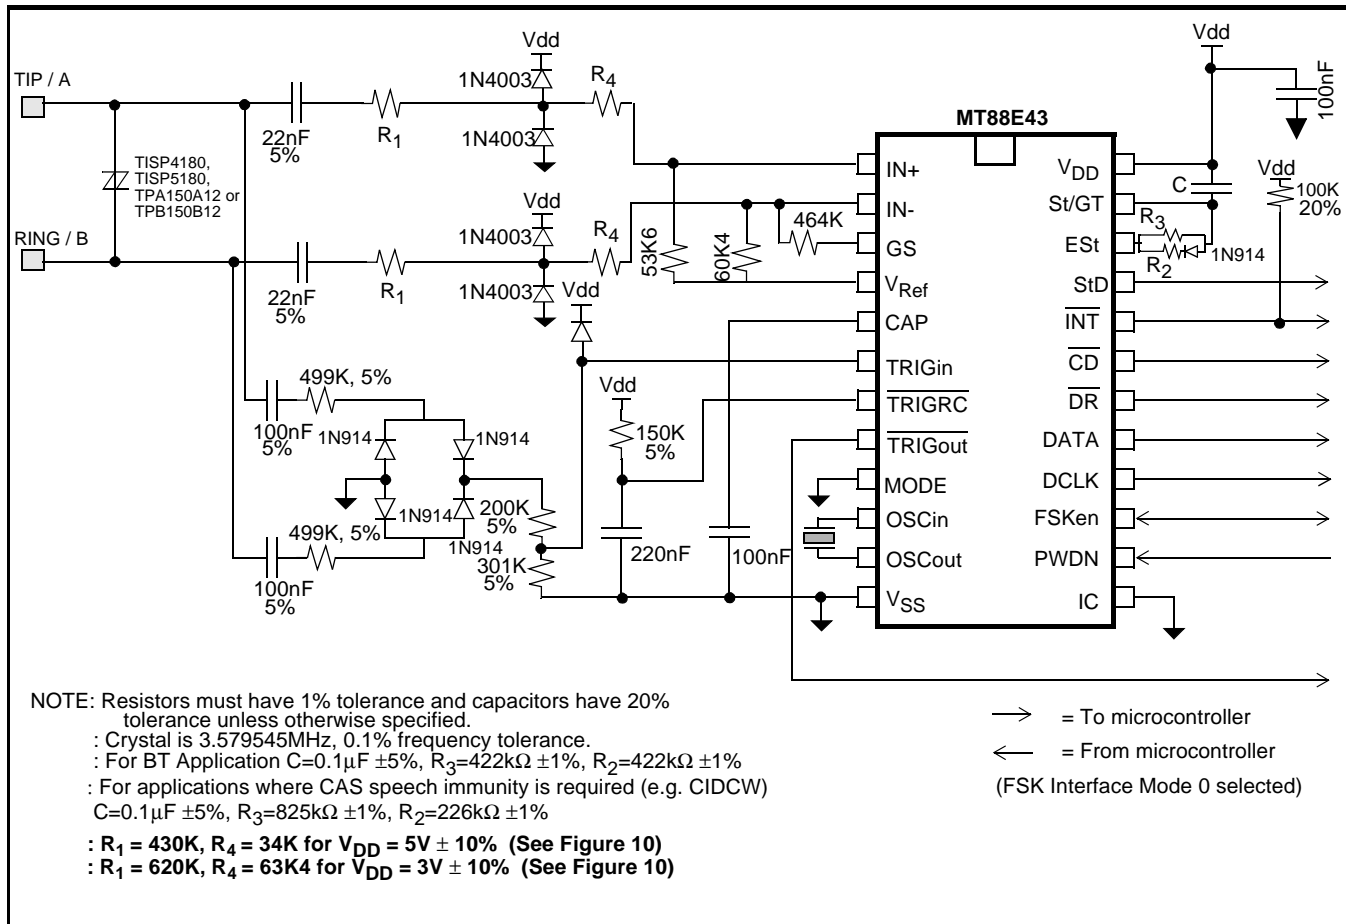
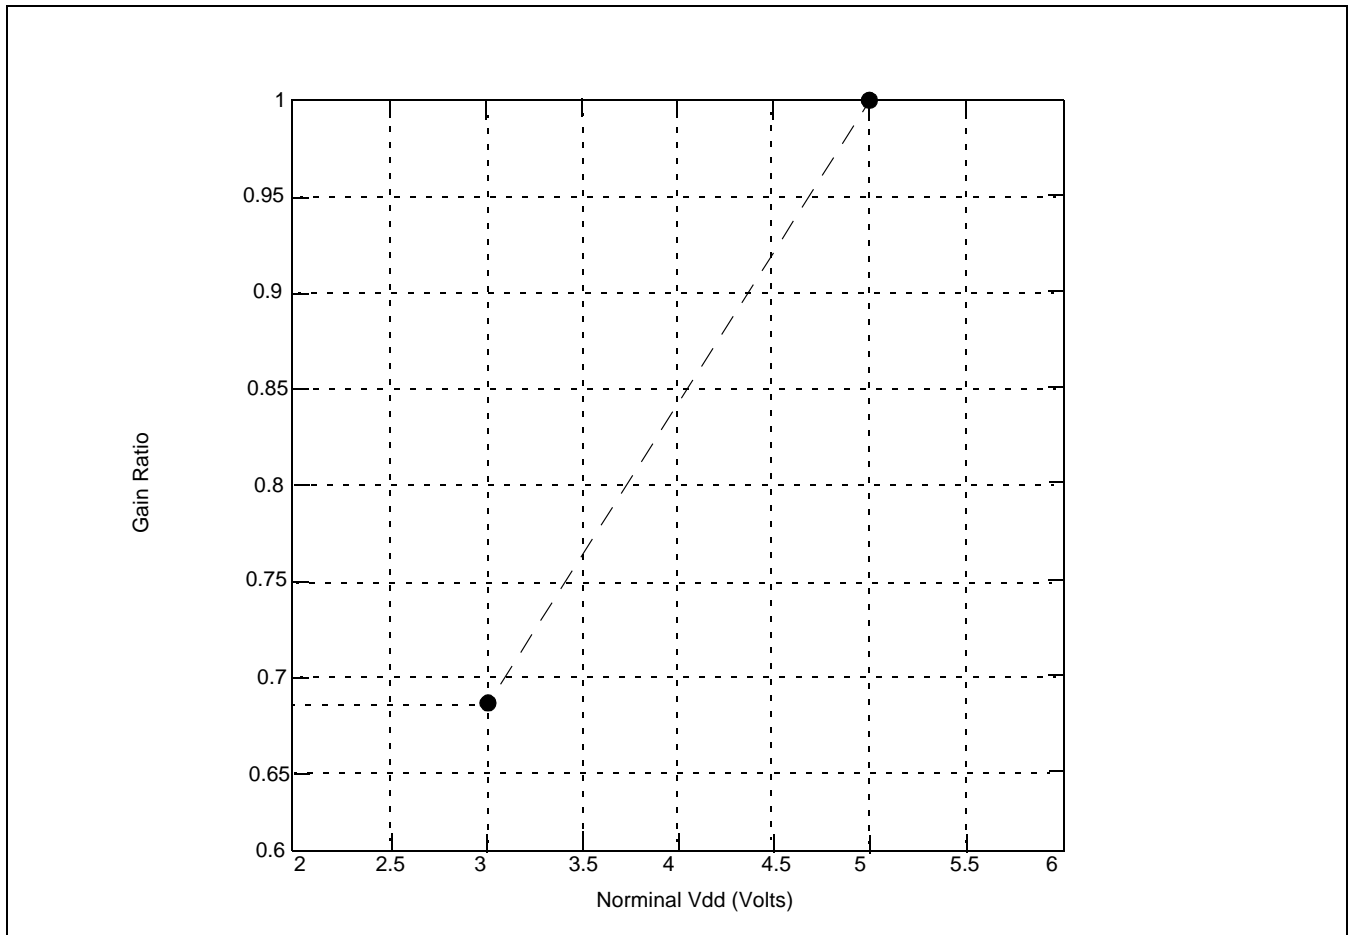

Figure 9 - Application Circuit
Figure 10: Gain Ratio as a function of Nominal Vdd
Figures 9 and 11 ($R_2=R_3=422K$, $C=0.1\mu F$) will meet the BT timing requirements.
The circuits shown in Figures 9 and 11 are application circuits for the MT88E43. As supply voltage (V_{DD}) is decreased, the threshold of the device's tone and FSK detectors will be reduced. Therefore, to meet the BT or Bellcore tone reject level requirements the gain of the internal opamp should be reduced according to the graph in Figure 10. For example when V_{DD}=5V (+/- 10%), R₁ should equal 430kΩ and R₄ should equal 34kΩ; and if V_{DD}=3V (+/- 10%) R₁ should equal 620kΩ and R₄ should equal 63.4kΩ. Resistors R₁ and R₄ are shown in Figures 9 and 11.
The circuit shown in Figure 9 illustrates the use of the MT88E43 in a proprietary system that doesn't need to meet FCC, DOC, and UL approvals. It should be noted that if glitches on the tip/ring interface are of sufficient amplitude, the circuit will falsely detect these signals as ringing or line reversal.
Note: In the application circuits shown in Figures 9 and 11, the Gain Ratio of MT88E43 opamp is
- With gain setting as shown in Figure 10. Production tested at $3V \pm 10\%$, $5V \pm 10\%$.